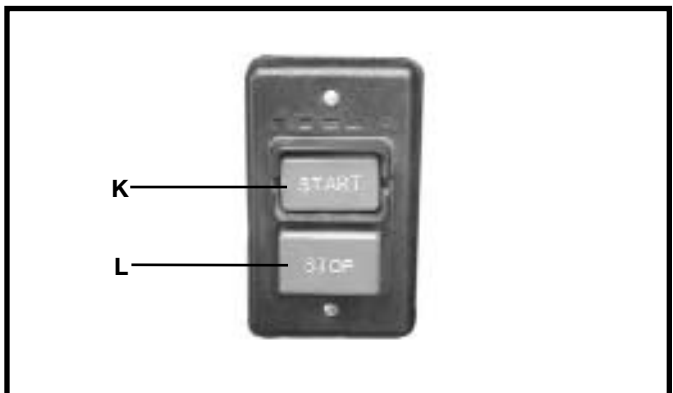

Fig. 17
To start the tool, press the “START” button (K) Fig. 17. To stop the tool, press the “STOP” button (L) Fig. 17.